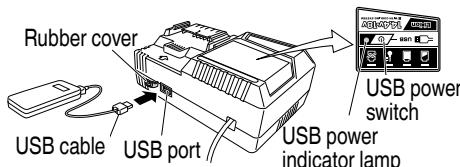

Fig. 7
- (2) Turn the USB power switch ON (Fig. 7)
- (3) Connect the USB cable. (Fig. 7)
- Turn the USB power switch OFF and unplug the power cord from the electrical outlet. (Fig. 7)